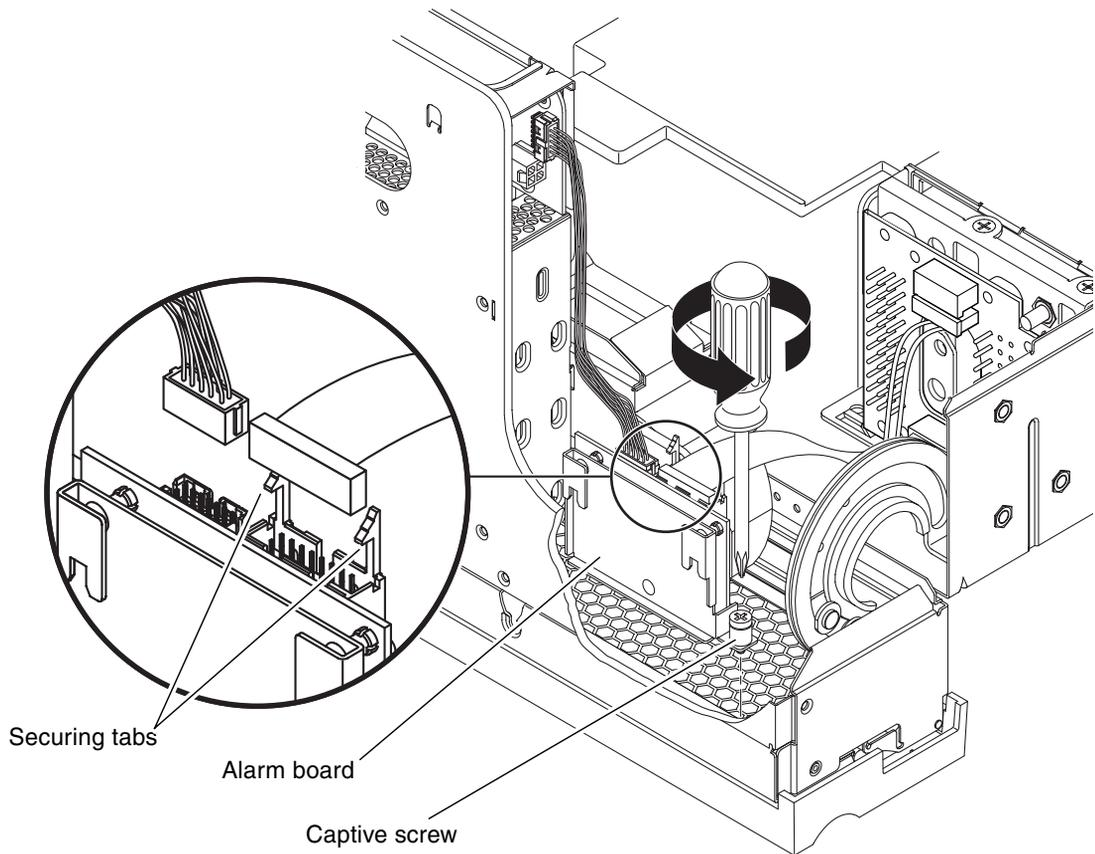

FIGURE 4-1 Removing the Alarm Board
- 5. Push back the securing tabs and detach the ribbon cable and the cable to the SCSI board (FIGURE 4-1).**
- 6. Using a No. 2 Phillips screwdriver, loosen the green captive screw that secures the alarm board to the rotating service module (FIGURE 4-1).**
1. Place the alarm board into position in the rotating service module (FIGURE 4-1).
2. Tighten the captive screw to secure the alarm board to the rotating service module (FIGURE 4-1).
3. Connect the ribbon cable and the cable to the SCSI board to the alarm board and set the securing tabs (FIGURE 4-1).